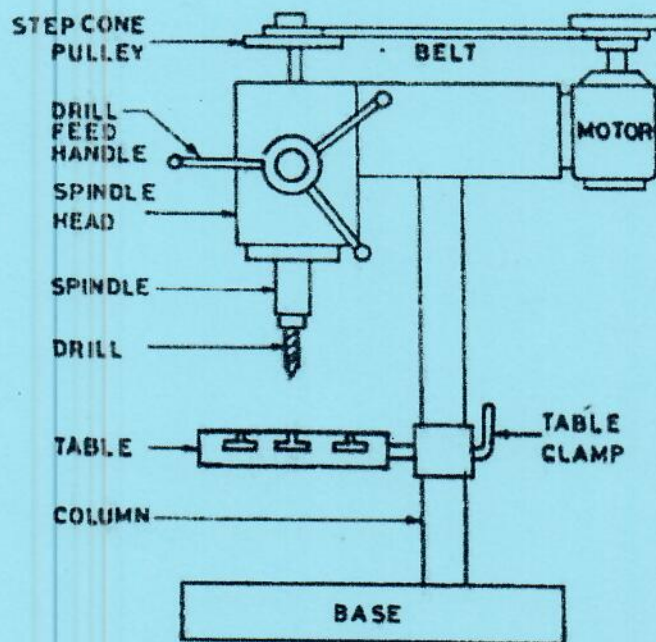

Figure 2 A common workshop bench drill
- e) Figure 2 shows a stationary drill press using a belt-pulley drive system. An electric motor runs at 1800 rpm and drives a pulley whose diameter is 150 mm. If the diameter of spindle pulley 150 mm, determine